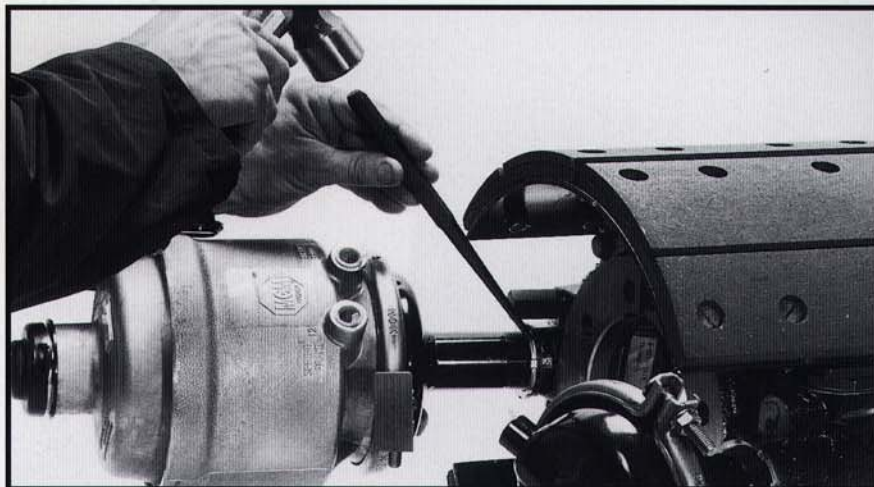
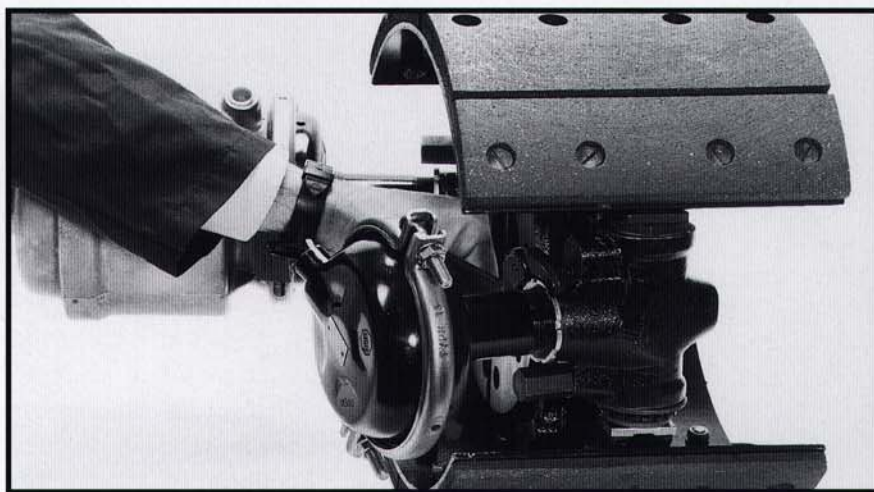

Fig. 6
Fig. 7
- (d) Using a flat-end punch (Fig. 6) loosen spanner (locking) nut and unscrew the tandem brake from foundation brake housing. **NOTE:** If available, use a spanner nut wrench (Fig. 7) in place of a punch. Spin off the tandem unit.
- (h) Tighten spanner (locking) nut. (Fig. 7) Then apply 90 psi air pressure to "Service" port and tighten further to 150 lbs. ft. minimum torque.
- (b) Using a flat end punch (Fig. 6), loosen the spanner nut and unscrew the service chamber from the foundation brake housing; if available, use a spanner nut wrench (Fig. 7), in place of a punch. Move the unit to a workbench for replacement of the rod boot.